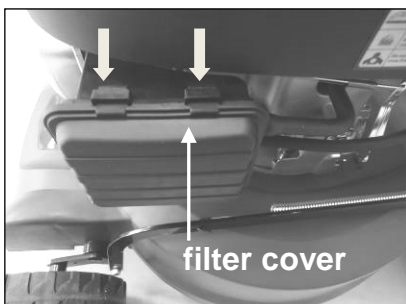

Figure 32
1. Press down the two tabs on top of the filter cover (fig. 32) .